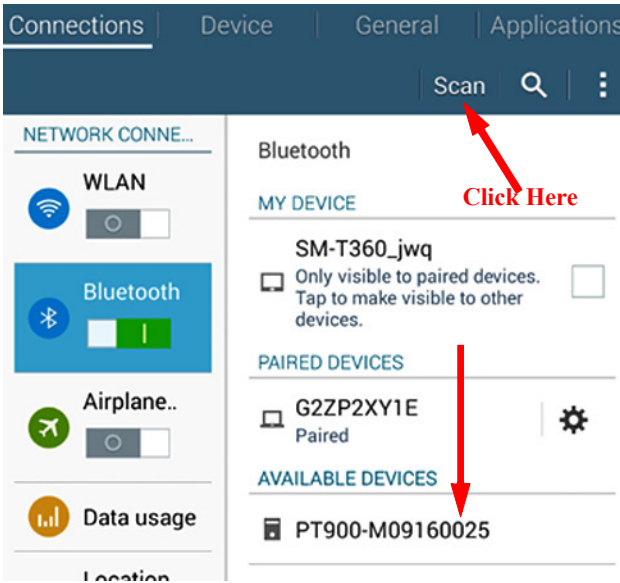

Figure 7: Available Devices List
3. After the APP finishes loading, the default Transmitter list is displayed. During initial installation, this list is empty. To connect to a new PT900 transmitter, click SCAN (see the red arrow in Figure 7 on page 10) and the APP will search for all available transmitters via Bluetooth.
4. After the scan has been completed, any new transmitters which were found are listed in the AVAILABLE DEVICES section of the tablet screen (see the red arrow in Figure 7 on page 10). Click on your transmitter to pair it with the tablet.